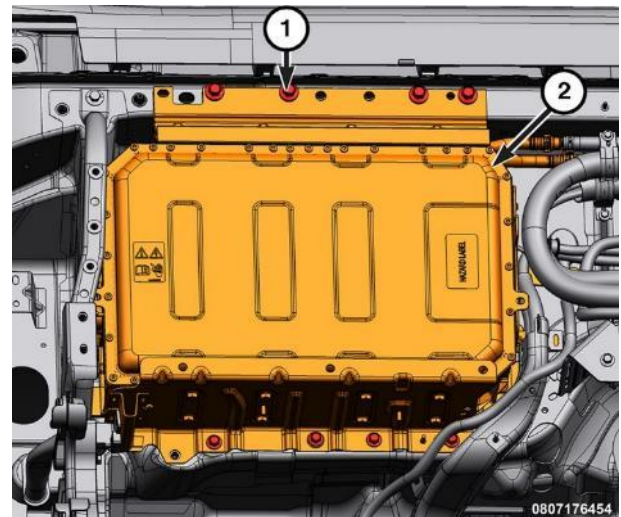

Figure 55 – HV Battery - Secondary
47. Install the fasteners securing the HV secondary battery to the vehicle and tighten to 80 N·m (59 Ft. Lbs.) (Figure 55).